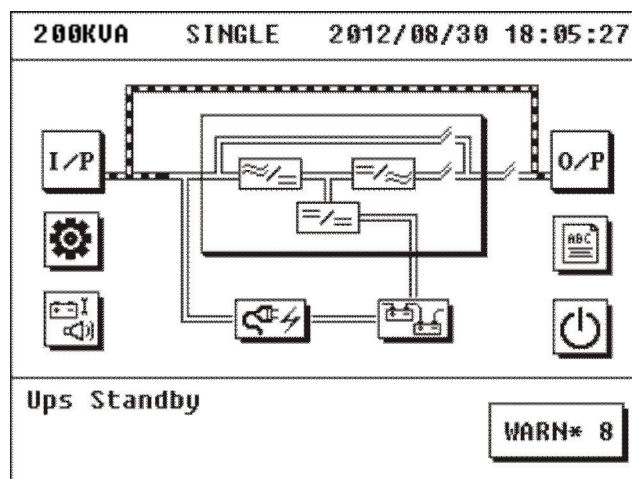

Figure 3.20 Maintenance Bypass Mode
2. Open the cover of breaker of maintenance bypass, close the breaker of maintenance bypass, cut off the output and battery breakers, and then the UPS enters into maintenance bypass mode. Its energy flow is shown in figure 3.20: